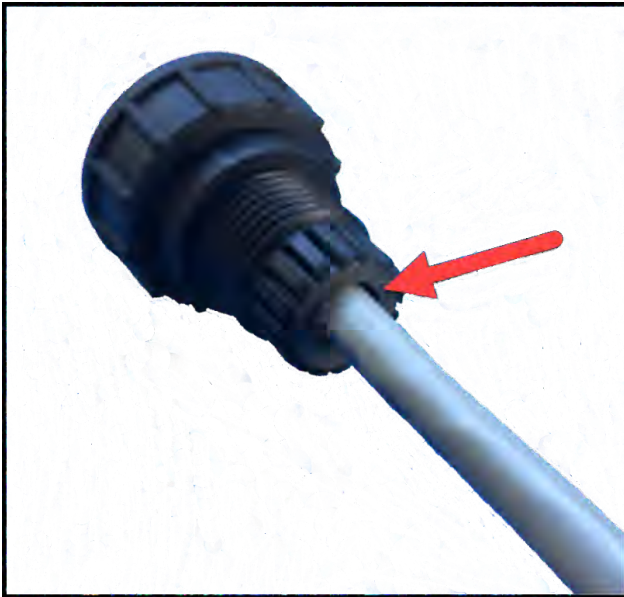

Figure 11: Rubber seal sits inside connector body
8. Slide the round rubber seal down the cable so that it sits fully inside the connector body and underneath the plastic fingers (see Figure 11).